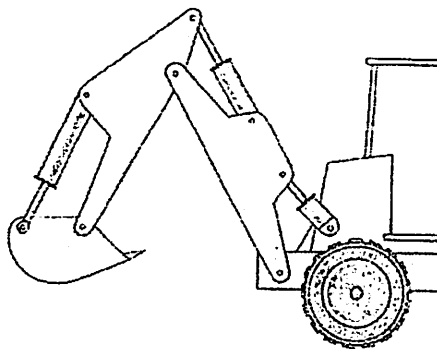

Figure 1
- (a) The Figure 1 below shown the sketch of a backhoe digging machine, Draw the kinematic diagram and number the links of the mechanism.